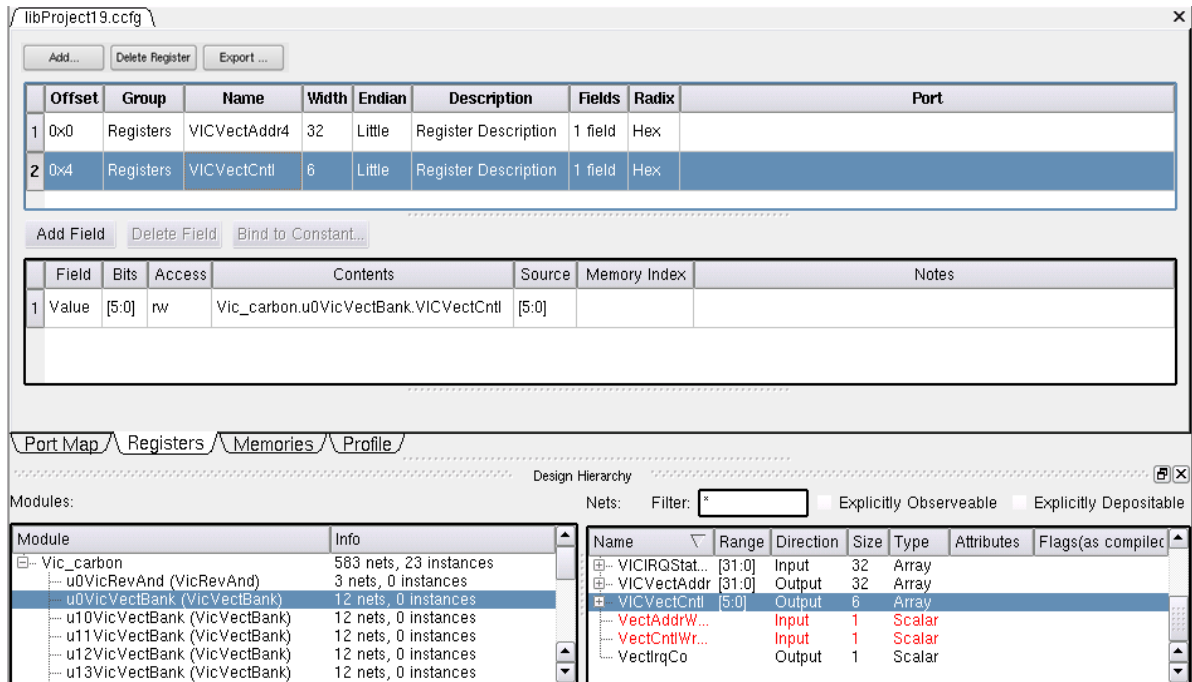

Figure 4-37 Drag Signal to Add a Register
1. Drag a signal from the *Design Hierarchy* view to the Register pane (Figure 4-37).